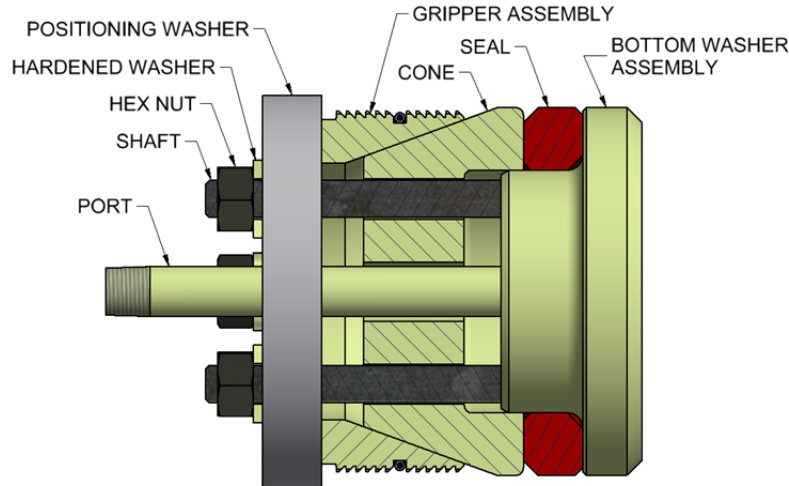

Figure 3: Type 3 GripTight MAX Test Plugs
- The Seal has asymmetrical chamfers. Place the Seal on the Far Support with the large chamfer facing the Cone. See Figure 3 for reference.